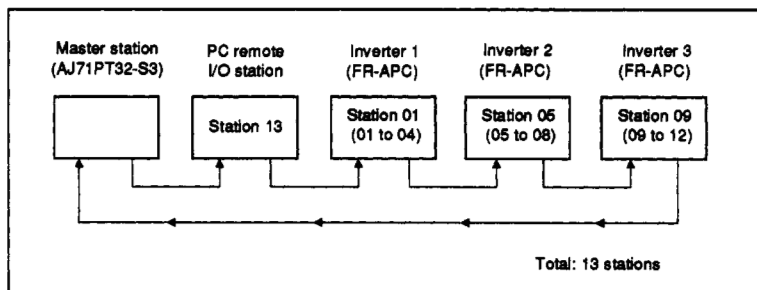

Fig.4.3 Station Number Setting Example
For example, the FR-APC defined as station 1 occupies stations 1 to 4. Hence, stations 1 to 4 cannot be used by the other units. (See Fig. 4.3.)
- (4) Station numbers may be specified independently of the connection sequence, e.g. as shown in Fig. 4.3.